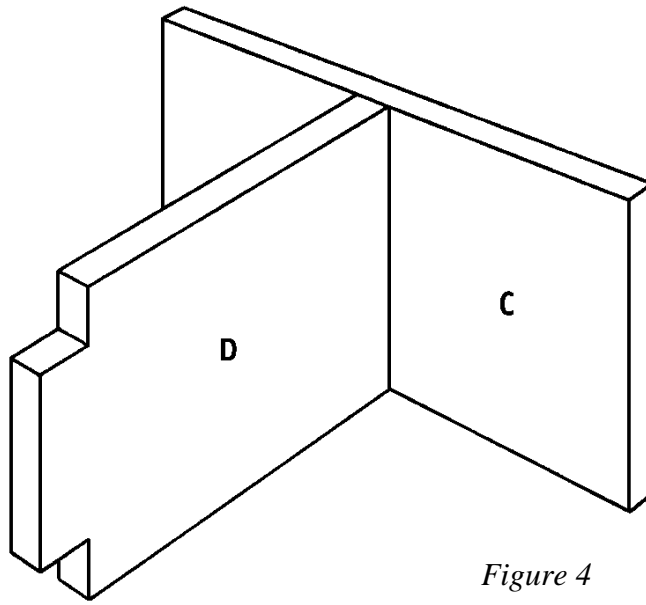

Figure 4
6. Repeat Step 5 to cut out the corners on the remaining Shelf (D).
7. Place one Inner Vertical (C) on edge, on a flat surface. Center the Shelf (D) over the Inner Vertical (C), with the cutouts facing up, as shown in *Figure 4*. Apply glue to the meeting surfaces, and screw through the Inner Vertical (C) into the edge of the Shelf (D), using four 1-5/8" screws.